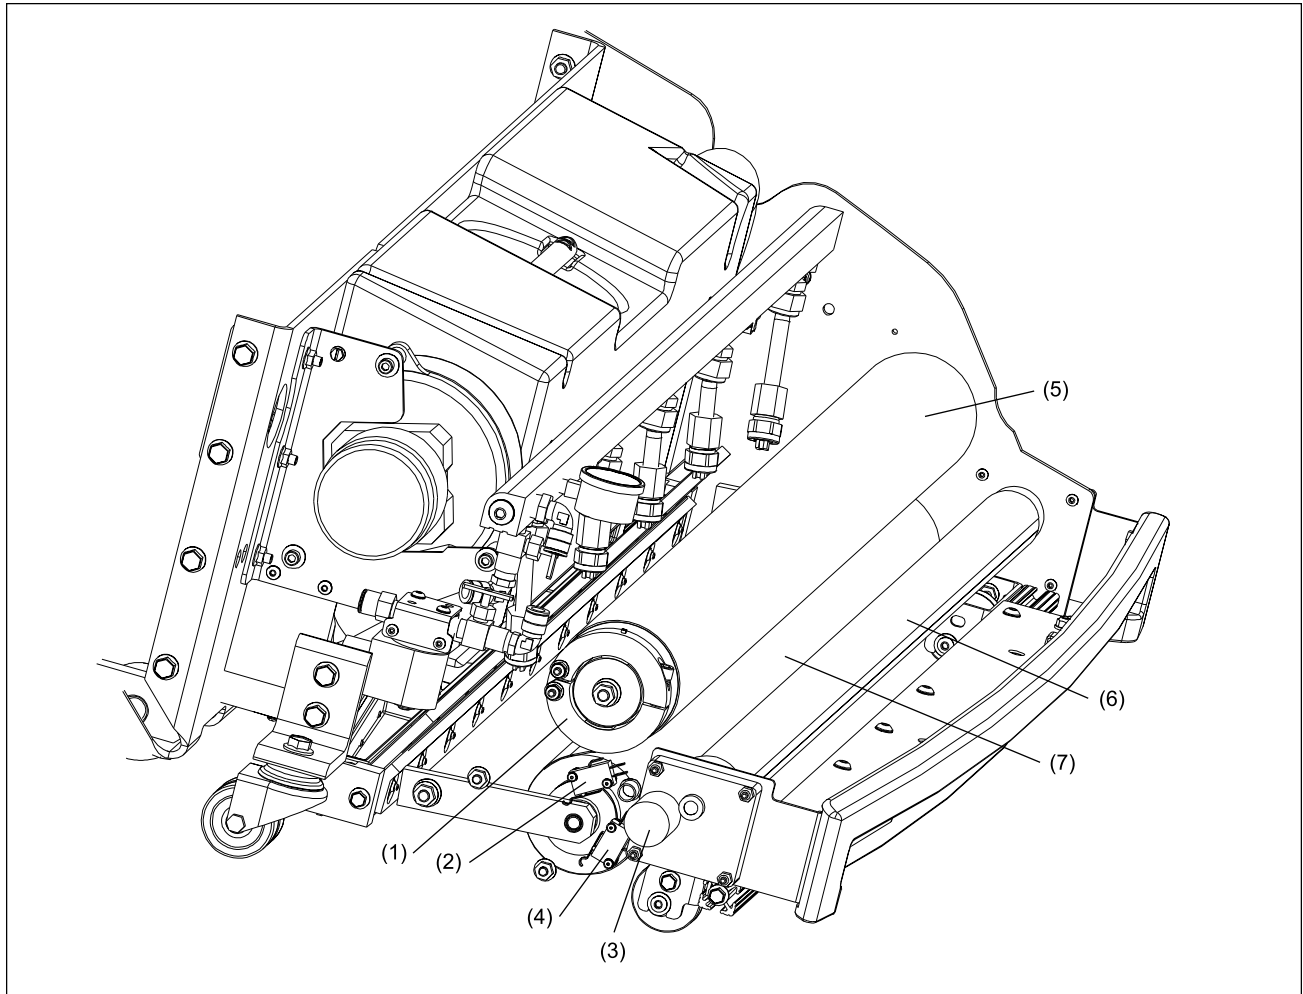

Figure 2-3. Duster Cloth System
1. The **duster contact roller** lowers so the duster cloth is in contact with the lane surface, removes dust and dirt from the lane surface as the machine travels toward the pin deck. Refer to Figure 2-3.
7. The duster cloth take-up roller continues to rotate to advance new duster cloth for use on the next lane. Refer back to Figure 2-3.